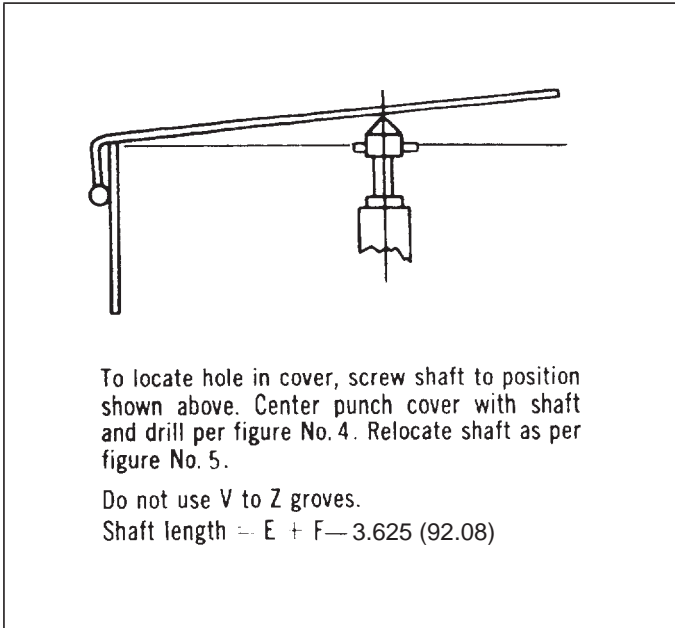

Fig. 3. Center Punching of Cover Using Shaft.
6. Shaft may be used as a center punch to locate hole in cover. Follow instructions under Fig. 3.